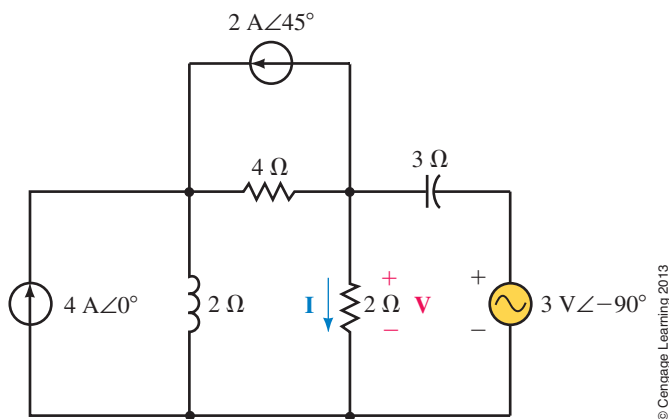

FIGURE 19–60
15. Use mesh analysis to find the current I and the voltage V in the circuit of Figure 19–61.